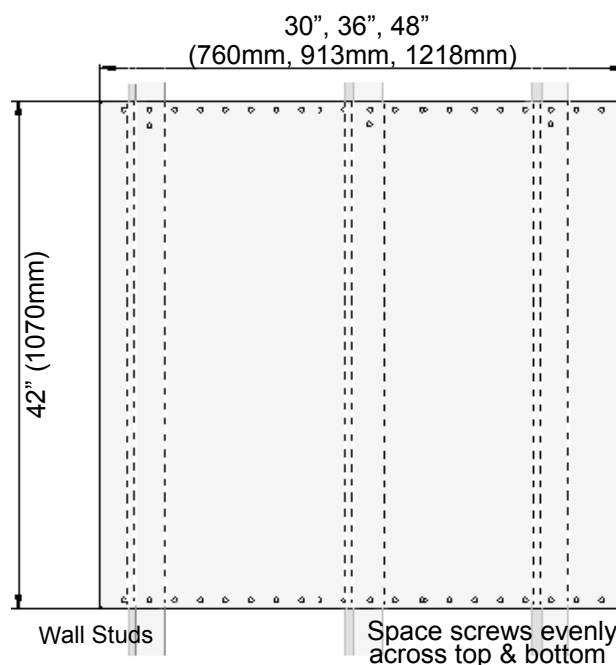

FIGURE 14: BACKSPLASH INSTALLATION
- Per each wall stud, use (2) of the provided screws to secure both the top and bottom of the backsplash (see *Figure 14*).